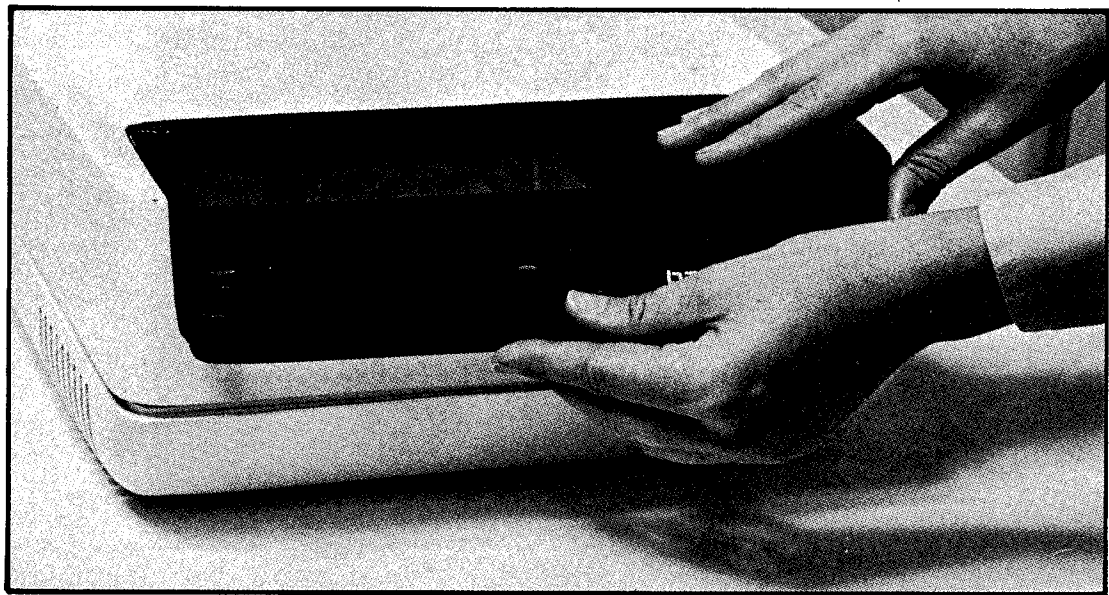

Figure 36. Removing tape drive unit cover
2. Remove the unit's cover by pulling it steadily and gently directly away from the front of the unit (Figure 36).